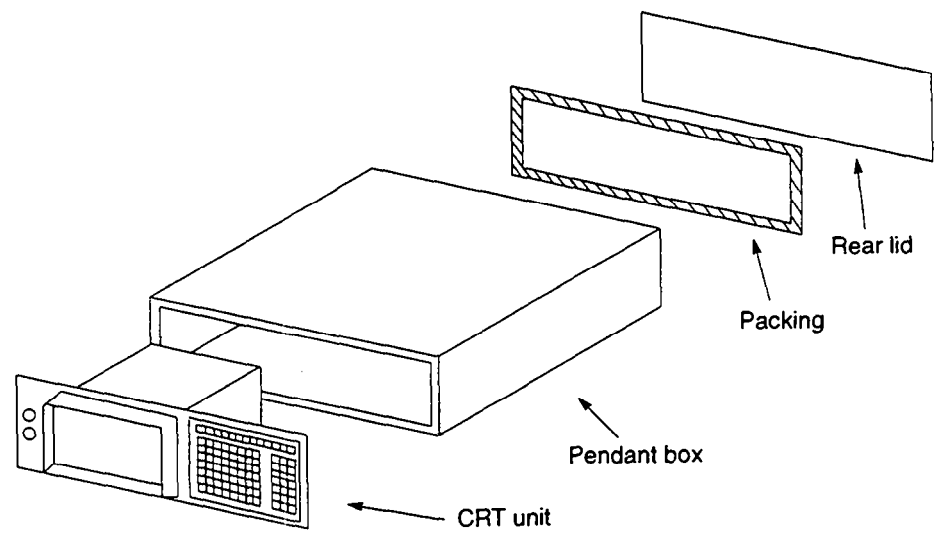

Fig.1.7 CRT Unit
- Seal the clearance at the cable inlet, door, rear lid, etc. with packing material. (Refer to Fig.1.7.)